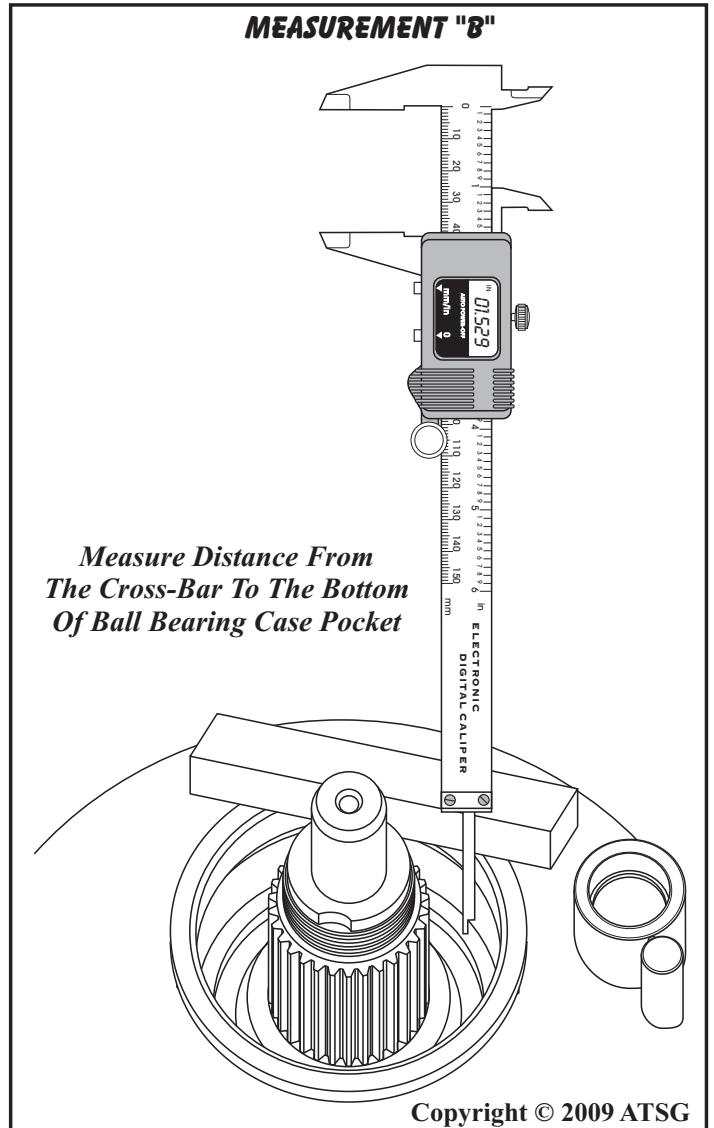

Figure 188
24. Measure from the cross-bar to bottom of the ball bearing pocket in case, as shown in Figure 188, and record this as Measurement "B".